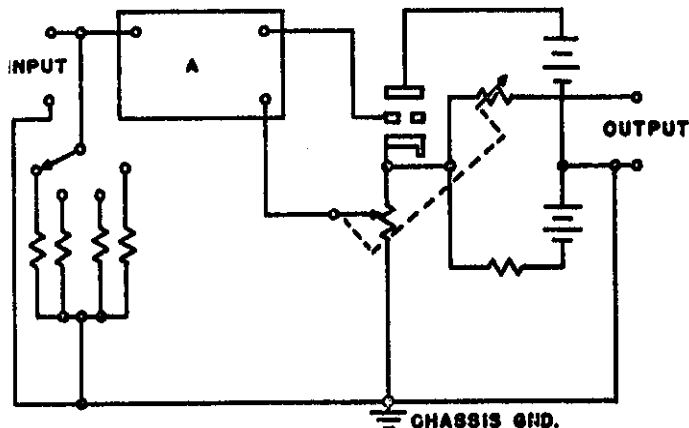

FIGURE 3. Normal Ammeter Operation Schematic
- (1) Shunt Resistor Method (NORMAL) In the normal operating connection as shown in Figure 3 current is measured by placing a resistor across the input terminals and measuring the voltage drop. The voltage drop is selected by the MULTIPLIER switch; the setting is the input voltage drop for full-scale meter deflection.